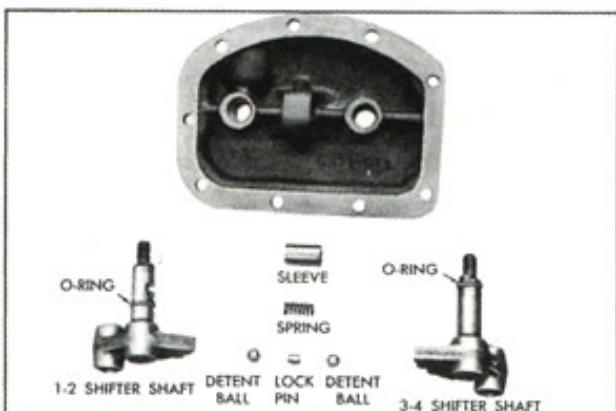

Fig. 15—Shift (Side) Cover Assembly
4. Replace necessary parts (Fig. 15) and assemble by reversing steps 1-3.